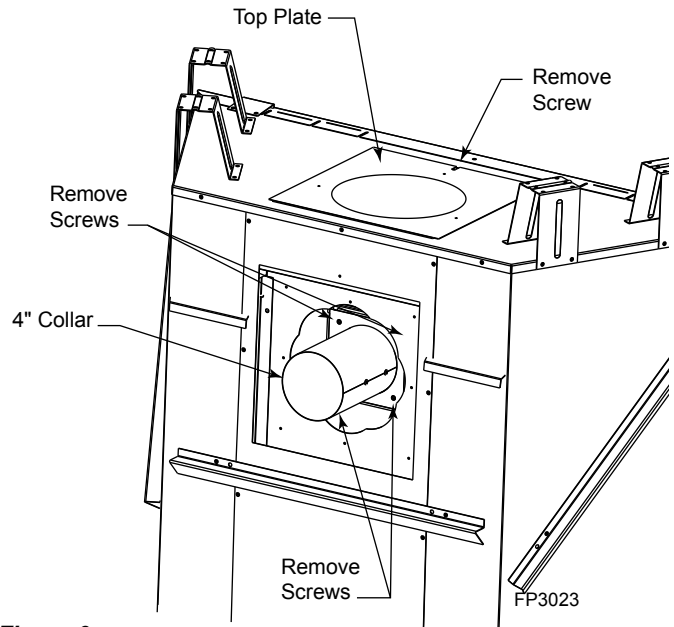

Figure 9 - Remove 4" Collar and Gasket and Top Plate
3. Remove the plate with the 4" collar and gasket by removing four (4) screws. Set aside. *Figure 9*
4. Remove the top plate located on top of the unit by removing one (1) screw. Set aside. *Figure 9*